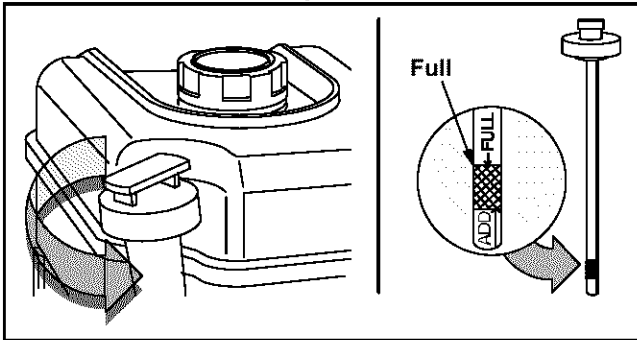

Figure 8
- Tighten the dipstick before removing it and check the oil fill level. See Figure 8.